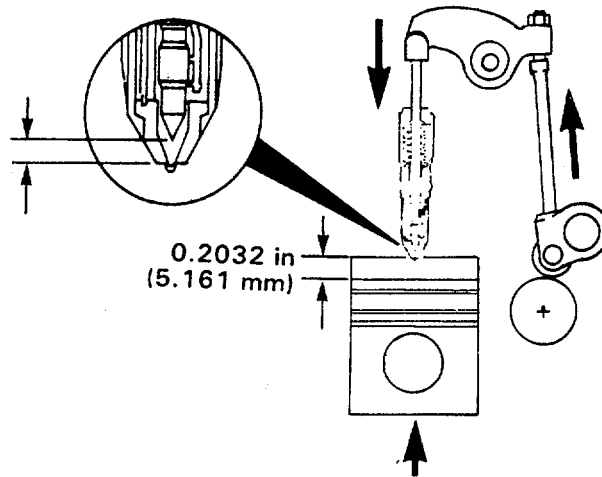

FIGURE 3-24. Injection Timing.
- (1) Injection Timing General Information. The injection timing is the relative measurement of the distance remaining between the injector plunger and the injector cup when the piston is 0.2032 inch (5.161 mm), or 19 degrees Before Top Dead Center (BTDC) on the compression stroke (Figure 3-24). Injector timing is expressed by the amount of push tube travel remaining.